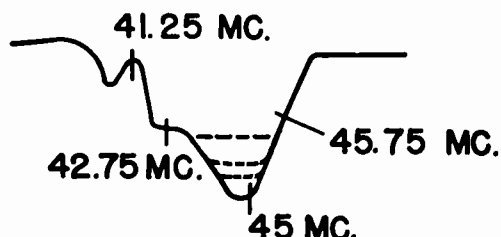

Fig. 18 Cathode Trap Response
11. Adjust the bias so that point "F" is 3 volts positive with respect to ground. Reduce the signal generator input to obtain 2 volts peak to peak output at terminal "E". The response curve should be similar to the solid line portion of Fig. 18. At this point, adjust the cathode trap L13 to flatten the 45 Mc hump in the response curve as much as possible. It will be noted that with proper alignment some tuned circuits will flatten out more than others, as illustrated by the broken lines.